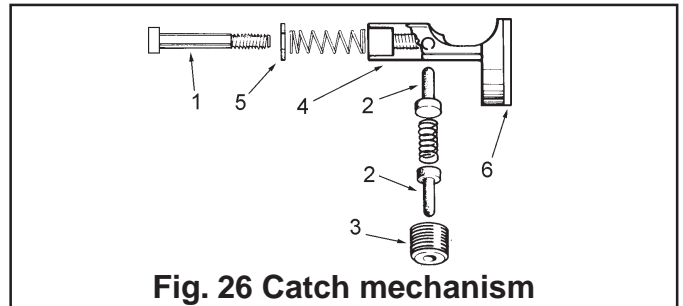

Fig. 26 Catch mechanism
6.48 To replace the push-button catches remove any attached table section, refer to Fig.26 and proceed as follows:
- i Remove screw (1) to release the push-button. The right hand push-button operates in conjunction with spring loaded plungers (2) which hold the push-button 'in' when pressed with a section in position. To access to these plungers place a screwdriver in catch retainer (3) and remove plungers (2) with spring.